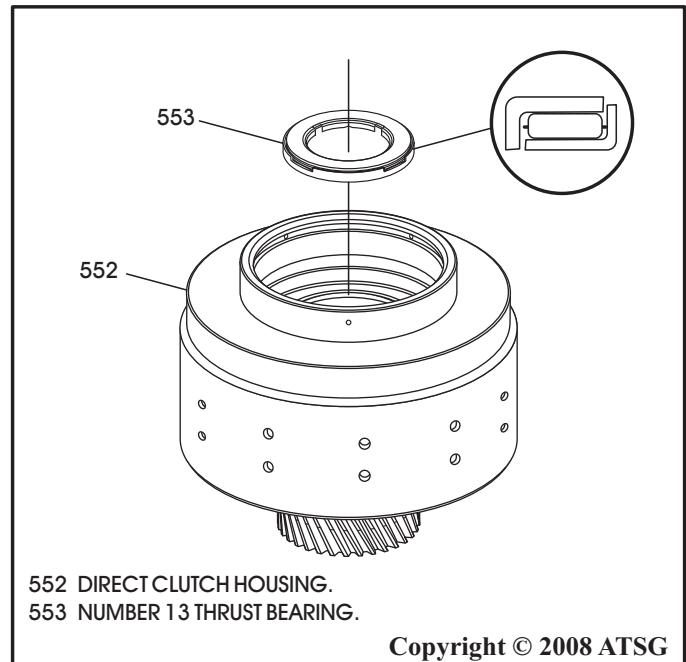

Figure 143
15. Install the number 13 thrust bearing, as shown in Figure 143, and retain with Trans-Jel®.